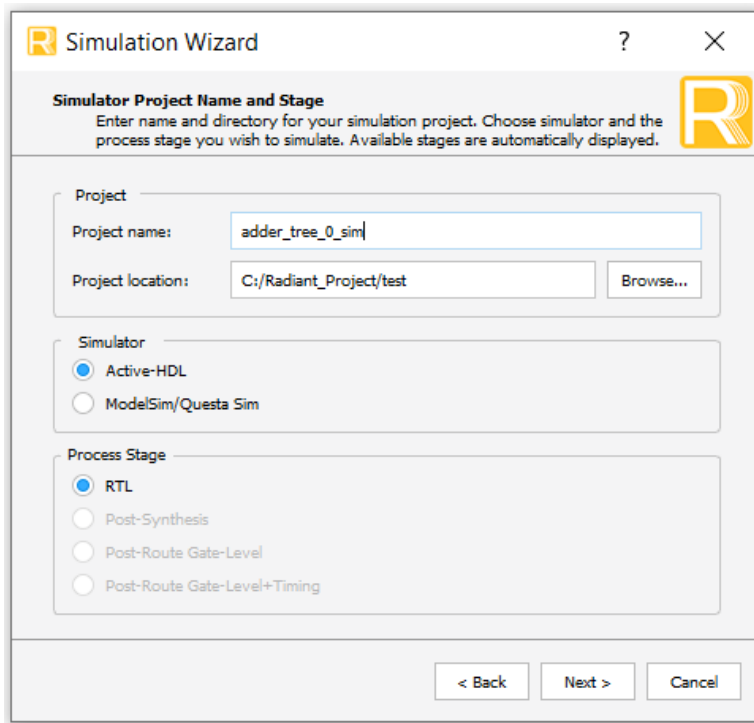

Figure 3.4. Simulation Wizard
1. Click the  button located on the **Toolbar** to initiate the **Simulation Wizard** shown in Figure 3.4.